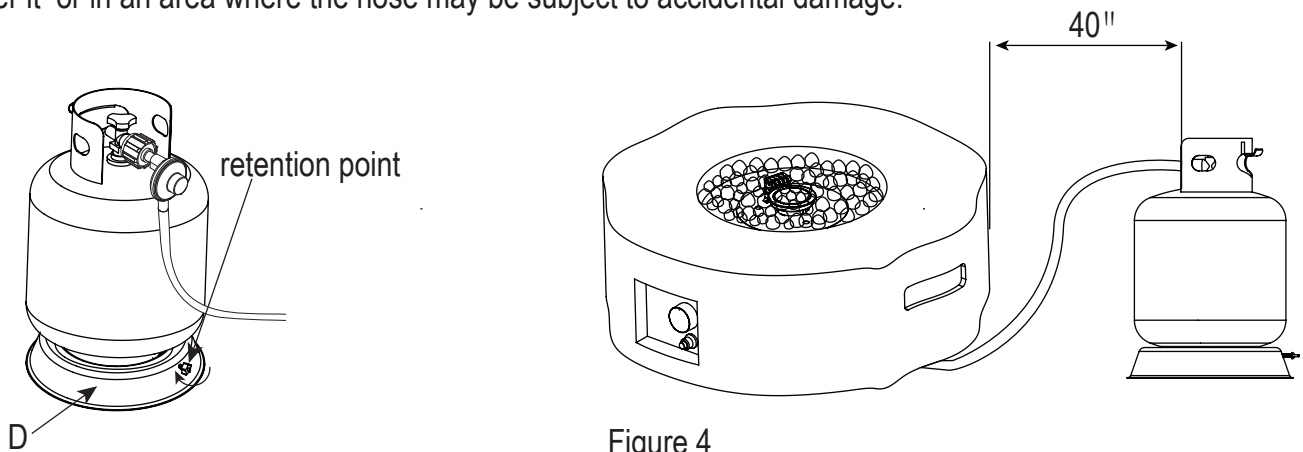

Figure 4
4. Secure the cylinder by tightening clockwise the retention point found on the tank seat (B) (see Figure 4), so that the cylinder cannot move from side to side or fall down.